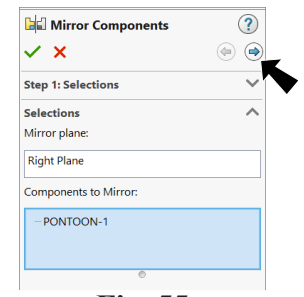

Fig. 55
Step 1: Selections, **Fig. 55**